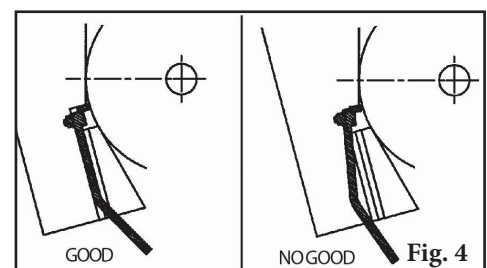

Fig. 4
- Check tip alignment with gauge provided.** Align the gauge against the head pulley and move down until the gauge contacts the top of the blade. The suspension arm should align with lines marked on gauge (Fig. 4). If the alignment is not correct, loosen both bearing block bolts and slide pole to gain correct alignment. Correct one side at a time. Tighten bolts and repeat Step 5.
- 5. Set the correct blade tension.** Refer to the charts below for the spring length required for the belt width. Lightly pull the pivot arm toward the end of the torque arm slot nearest the pole and turn the adjusting nuts until the required spring length is achieved (Fig. 4). Lock the top adjusting nut.
5. **Check tip alignment with gauge provided.** Align the gauge against the head pulley and move down until the gauge contacts the top of the blade. The suspension arm should align with lines marked on gauge (Fig. 4). If the alignment is not correct, loosen both bearing block bolts and slide pole to gain correct alignment. Correct one side at a time. Tighten bolts and repeat.
- 5. Connect Control Box to PAT Air Tank.** Keep hands clear of the blade and pinch-points before connecting all air lines. With the hose already connected to the control box, route the other end and connect to the tank (Fig. 4). Once complete, open valve from tank by turning until the handle is in line with the valve.